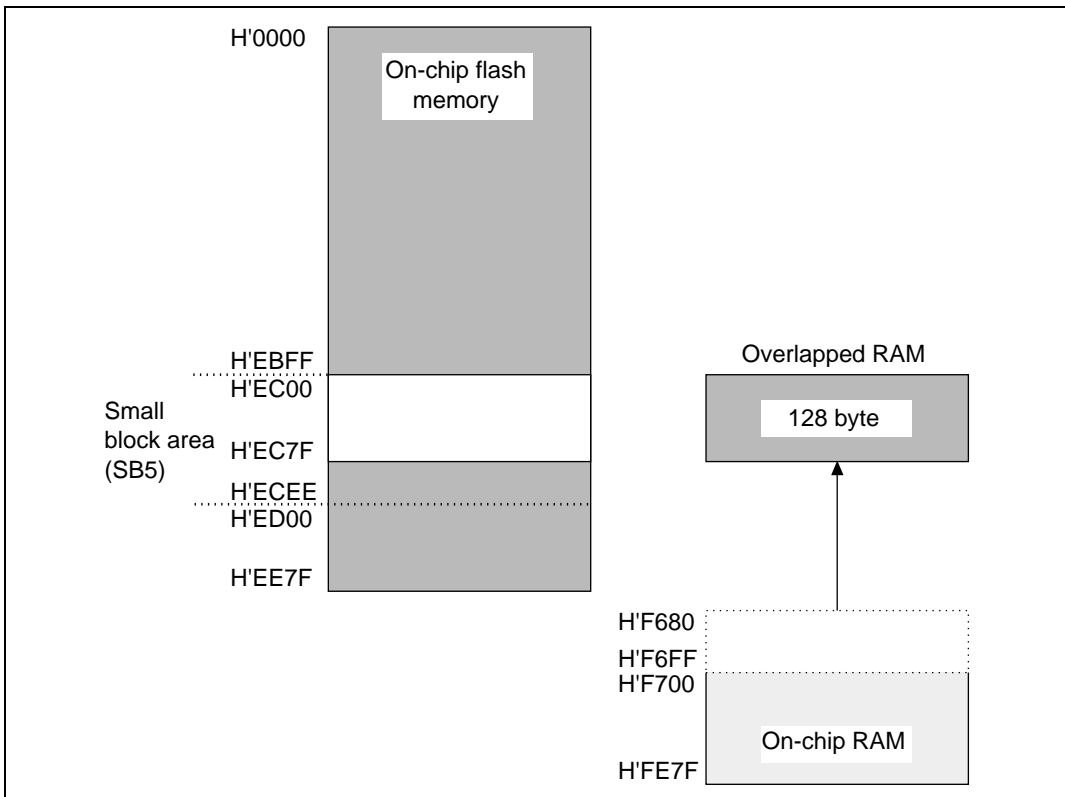

Figure 1.11 RAM Overlap Operation Example (Addresses H'EC00 to H'ECFF)
- The overlap RAM area is 128 bytes located at addresses H'F680 to H'F6FF (figure 1.11).